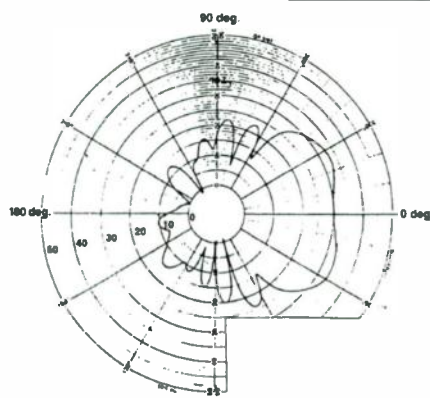

FIGURE 4: Polar pattern of prototype: 50 holes of 2mm radius and 25mm spacing at 800Hz. Measured directivity.
2. A frequency range of 1-5kHz, with the polar pattern shown in Fig. 4.